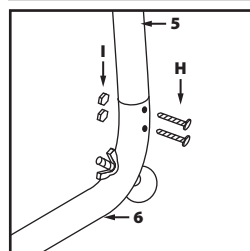

Fig. 9
- Slide component **5** into the bottom of component **6** and secure using fixings **H & I** from **BAG 3** (Fig 9)